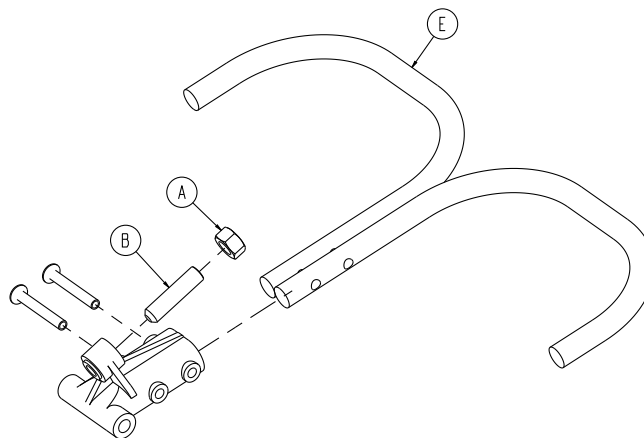

Figure 15 – Loosen the hex nut
6. Using a 1/2" combination wrench, loosen the hex nut (A) on the Fowler release handle pivot while using a 5/32" hex wrench to hold the set screw (B) fixed in the pivot (Figure 15).
7. Using a 5/32" hex wrench, turn the set screw until there is no movement between the Fowler release handle (E) and the pneumatic cylinder release button (Figure 15).